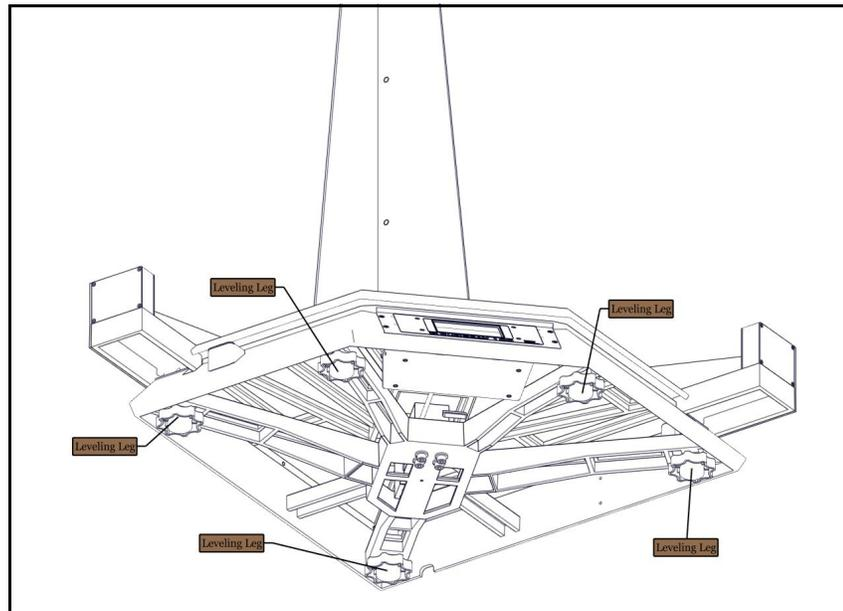

Figure 9
1. Locate the five leveling legs under the base. Their positions are indicated by the pointers in Figure 9 below.